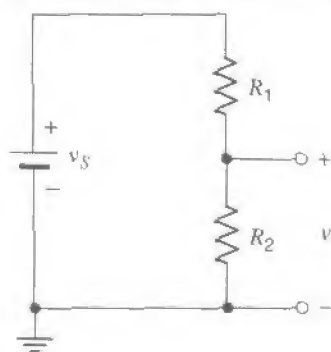
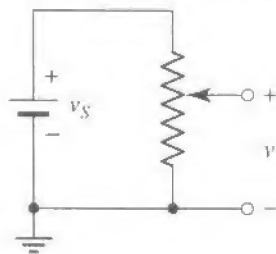

Fig. 5
Fig. 7
11. Construct the voltage divider shown in Fig. 5, using two different-valued resistors with values of several $k\Omega$ each. Set v_S to any convenient value, measure v , and verify that it satisfies the voltage divider formula:
14. Replace the two resistors of Fig. 5 by the potentiometer, as in Fig. 7. Use any convenient value for v_S . Observe the effect of the potentiometer setting on the value of v . What are the minimum and maximum attainable values of v , in comparison to v_S ?